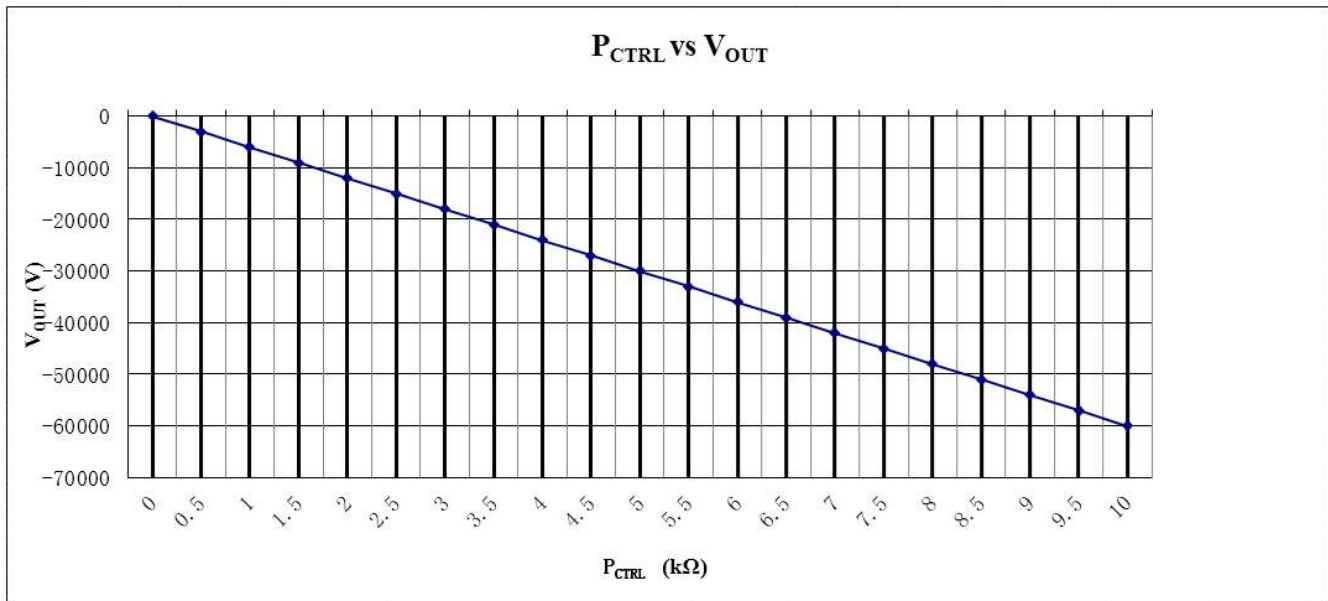

Figure 4. P_CTRL VS. V_OUT
5. HV adjustment: 10-turn potentiometer for adjusting output voltage. Rotate it clockwise to increase the output voltage, and the potentiometer resistance = the corresponding scale $\times 10\Omega$. For example, as Figure 4 shows, when the scale is 10, and the frame above the scale shows 1 (1k Ω), then the resistance = $10 \times 10\Omega + 1k\Omega = 1.1k\Omega$, and the like.